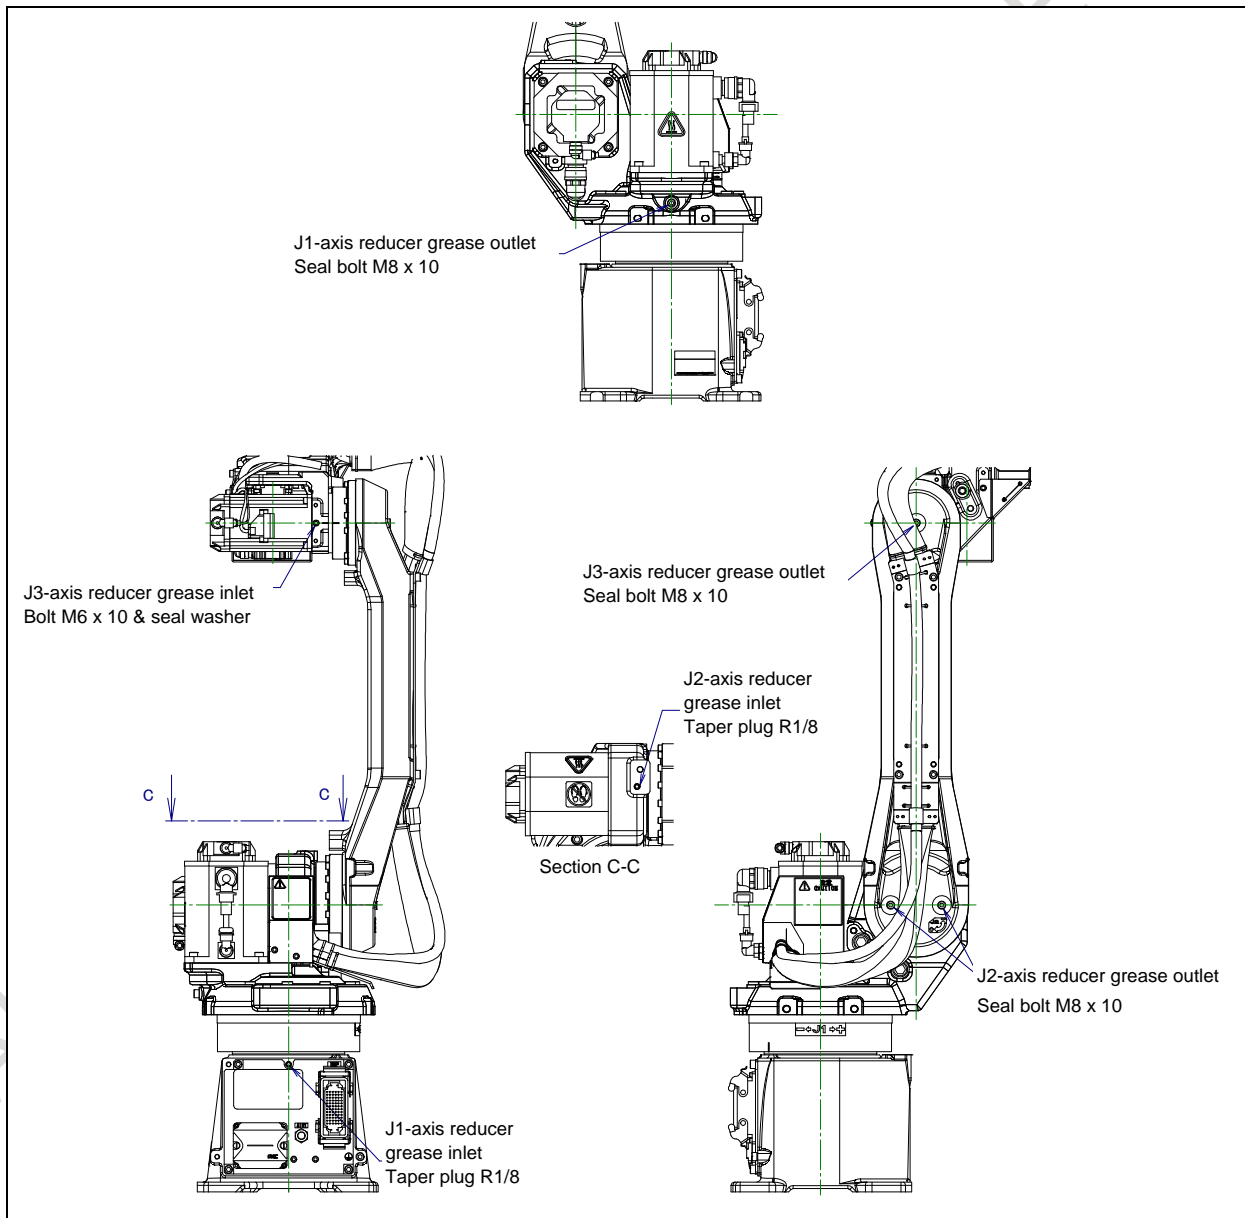

Fig. 4.3.1 (a) Greasing points of J1 to J3-axis reducer
- 3 Remove the seal bolt or taper plug from grease outlet. (Fig. 4.3.1 (a))